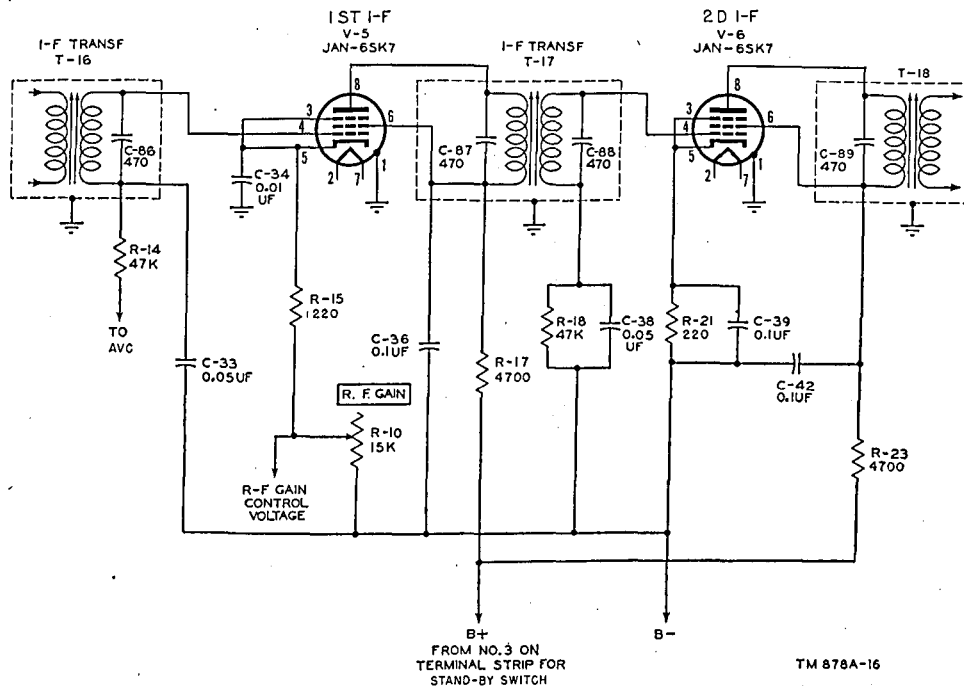

Figure 22. I-f amplifiers, simplified schematic diagram.
b. The suppressor grid (pin 1) is returned to the junction of resistor R-11 and r-f choke L-4. This choke prevents r-f currents from entering the B- line. Capacitor C-99 bypasses any r-f potential that appears in the suppressor grid circuit to ground. In this type of mixer circuit, the second grid (pin 4) acts as a screen for the oscillator injection section, and the fourth grid acts as the screen grid for the remainder of the tube. The second and fourth grids (pin 4) are tied together internally and receive a positive d-c voltage directly from the B+ supply line through screen-dropping resistor R-50. Capacitor C-97 bypasses, to the cathode, any r-f that might tend to modulate these grids. The incoming signal and the h-f oscillator signal mix within the tube (V-3), and the resultant difference frequency of 550 kc appears in the plate circuit. Transformer T-16 (the first i-f transformer) is tuned to this frequency and therefore passes the intermediate frequency to the grid (pin 4) of the first i-f amplifier (V-5 in fig. 22). C-32 is the mixer (V-3) plate circuit bypass capacitor, and resistor R-13 acts as an isolation resistor to decouple the mixer from the B+ supply line. V-3 is a pentagrid Tube JAN-6SA7; the filament is bypassed to ground through capacitor C-94.
53. I-f Amplifiers (fig. 22)